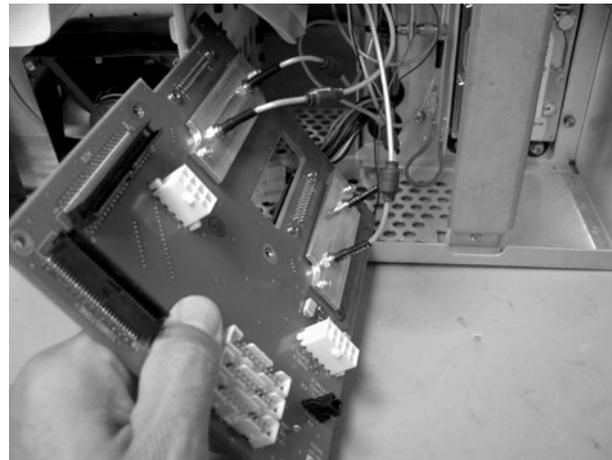

Figure 4-66. Pulling Out the A6 Distribution Assembly Board
- 5 Pull the A6 Distribution assembly away from the mainframe, as shown in Figure 4-66.